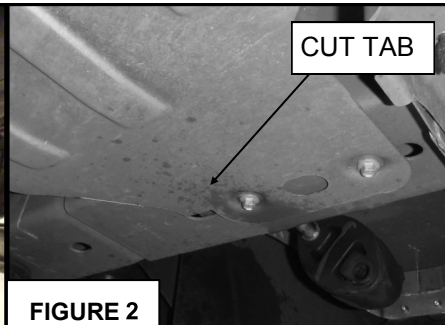

FIGURE 2
2. There are two silver colored steel plates that must be removed in order to proceed with the installation. These will be re-attached with the tabs trimmed. FIGURE 2